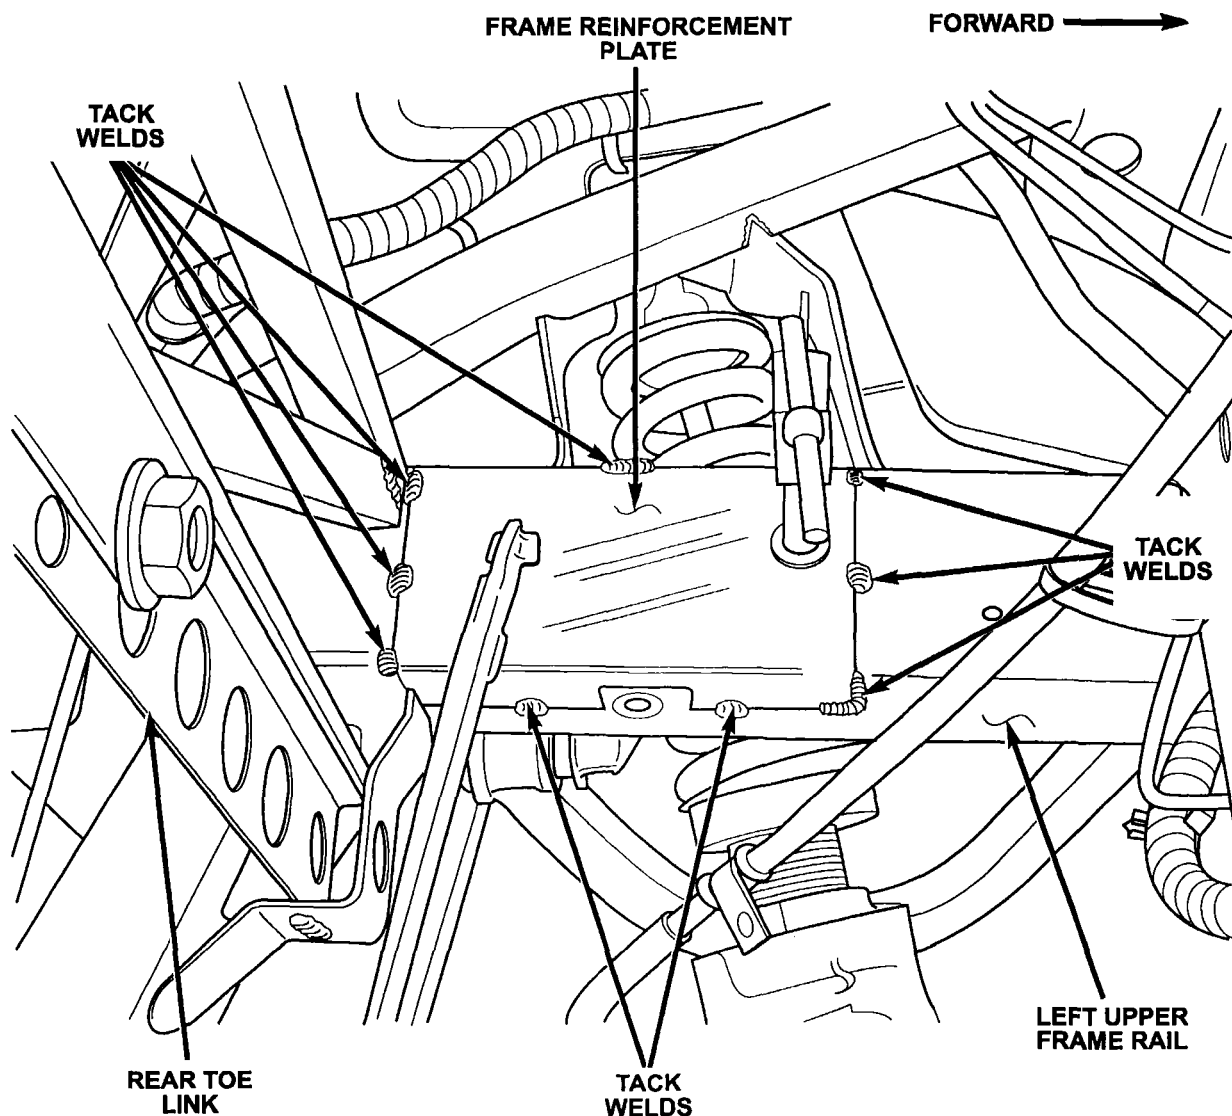

Figure 26
7. Clamp the reinforcement plate into position (Figure 26). The reinforcement plate must be flush against the frame before welding.
8. Tack weld the reinforcement plate into position as shown in Figure 26.